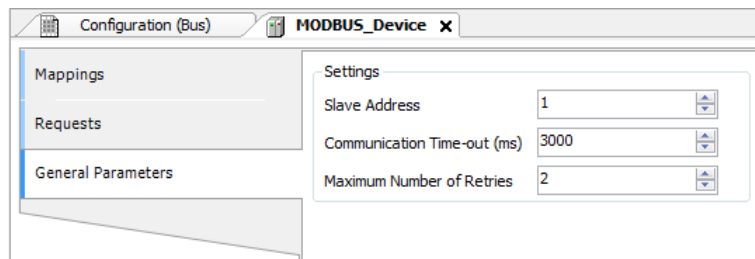

Figure 86: Device General Parameters Settings
- Add and configure devices via the General Parameters tab, defining the slave address, communication time-out and number of communication retries as can be seen in Figure 86.